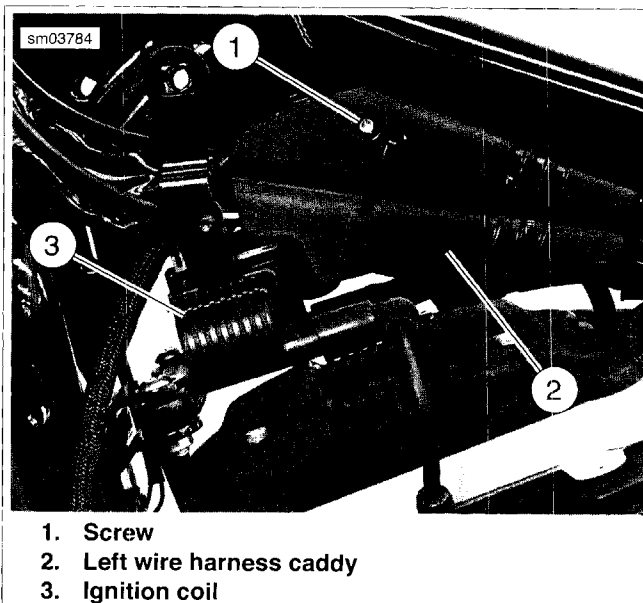

Figure 6-34. Ignition Coil and Left Wire Harness Caddy (XL Models Only)
5. **XL models only:** See Figure 6-34. Remove screw (1) securing left wire harness caddy (2) to right wire harness caddy. See 6.30 ELECTRICAL CADDIES. Carefully disengage left wire harness caddy and pull away from frame backbone.
8. **XL models only:** See Figure 6-34. Mate left wire harness caddy (2) to right wire harness caddy. Secure with screw (1) and tighten. See 6.30 ELECTRICAL CADDIES.